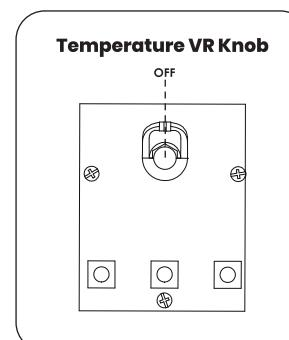

Fig. 6
1. Turn the Temperature VR Knob to "OFF" position at the heater base (Fig. 6).